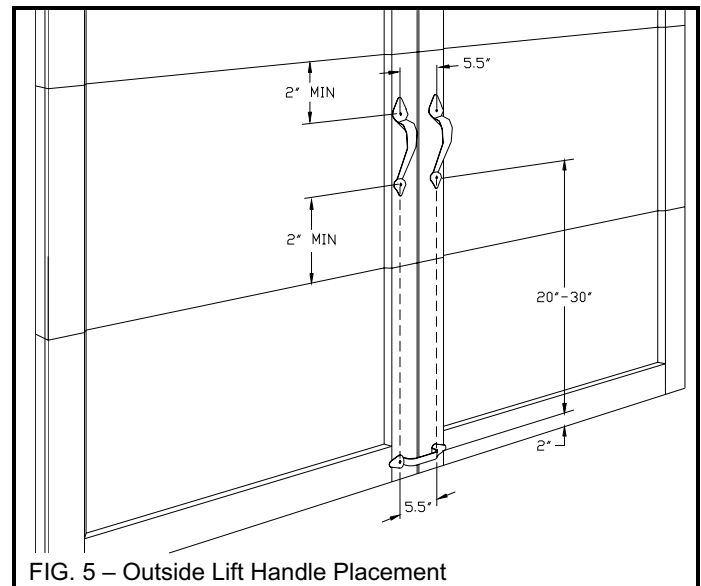

FIG. 5 – Outside Lift Handle Placement
Step 1: Center the horizontal ornamental lift handle horizontally on the outside of the bottom door section. Using the handle as a template, mark the holes to be drilled. The holes must be located exactly 2" from the bottom of the section (See Fig. 5).
Step 6: Take the two vertical ornamental handles and position on the 2nd section. Using the handles as a template, mark the holes to be drilled. With the sections stacked, the lower hole on each vertical handle must lie between 20" and 30" vertically from the holes on the bottom handle. The holes on each vertical handle should be centered 5-1/2" horizontally from each other. The holes on both vertical handles should line exactly with the holes on the bottom horizontal handle. No hole may be closer than 2" to the top or bottom of the section (See Fig. 5).